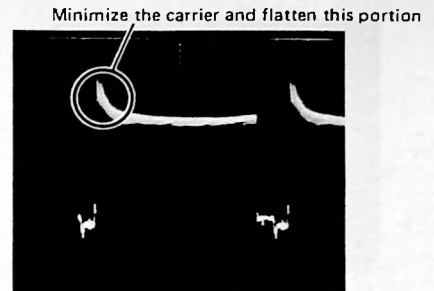

Fig. 4-4-13
- Adjust H.LIN-2 VR106 so that the carrier (3.58MHz) on the starting portion of Y signal at TP203 is minimum (Fig. 4-4-13), and the starting portion of Y signal becomes as flat as possible. At this time, the picture will have minimum disturbance (color shading) on the left side of the color monitor.